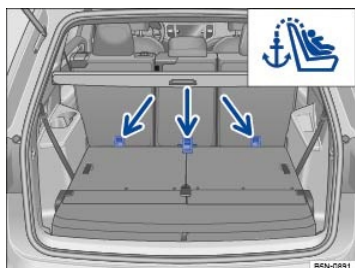

Fig. 45 Anchorage for the top tether strap on the back of the second row seats.
- Locate the tether anchor behind the second row seat backrest ⇒ Fig. 45. The third row seating positions do **not** have top tether anchors.
- Attach the tether strap anchorage hook into the opening of the tether anchorage ⇒ Fig. 45.